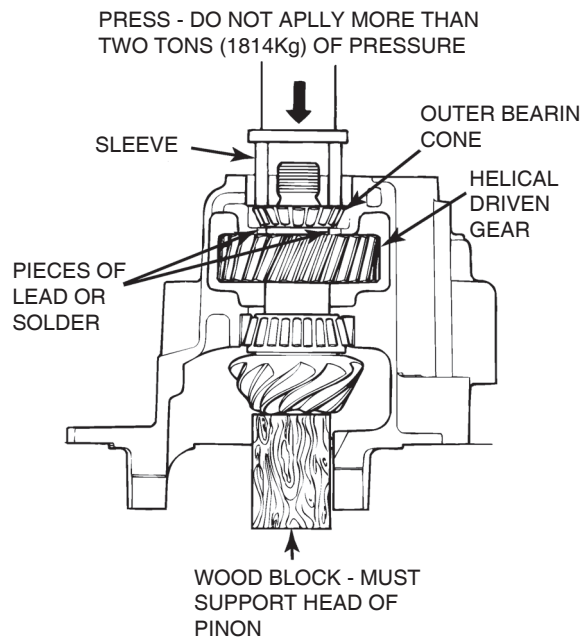

Figure 5.14
12. Remove the support from the flange of the differential case. Place a sleeve on top of the outer bearing cone. Use a press to apply 2 tons (1814 kg) of force to the outer bearing cone. The force of the press compresses the lead or solder pieces to the correct size. Do not apply more than 2 tons (1814 kg) of force. Figure 5.14.
18. Use a press and a sleeve to completely install the helical driven gear on the drive pinion. Use a sleeve on the hub of the gear that fits inside the pinion bore. Press the gear in the drive pinion until the gear touches the spacer. Do not remove the wood block at this time. Figure 5.14